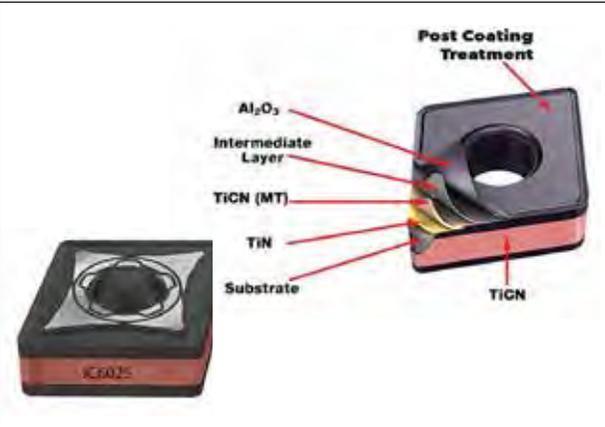

Fig.6. ISCAR's Grade IC6025 structure designed especially for turning ISO M materials
*ISCAR's recently developed grade IC6025 is intended specifically for turning materials related to ISO M group (austenitic and duplex stainless steel). The grade substrate is a multi-layered coating that features post-coated treatment. The grade enabled significant improvements in productivity related to turning materials in the aerospace industry. (fig.6)*